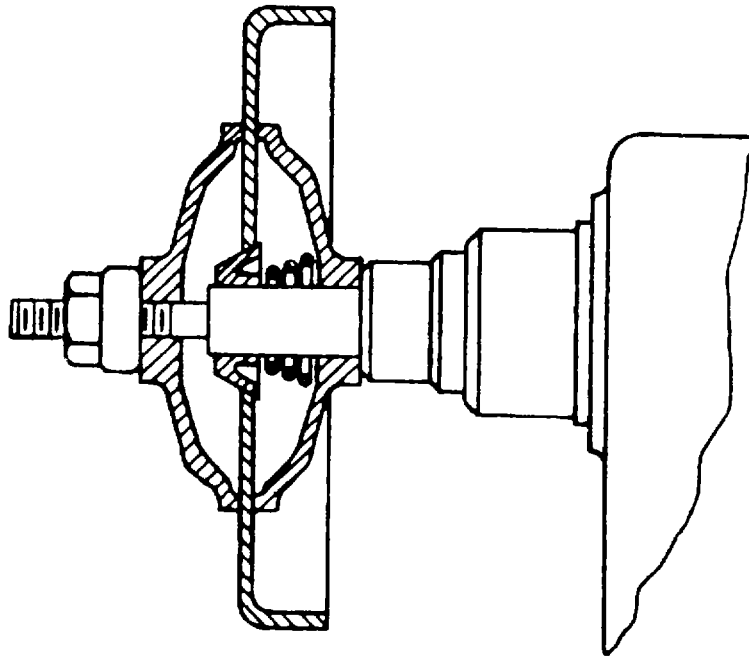

Fig. 1-2 - LOOSE DRUM SET-UP
- a. -Loose Drum Set-Up. Select proper Tapered Cone to fit in center of drum. Place one Face Plate on Arbor followed by the Spring and Tapered Cone. Place drum on Arbor over Tapered Cone and push drum up to pads of Face Plate. Place other Face Plate on Arbor and push up to drum. Place additional Spacers on Arbor so that the two Face Plates can be tightened together when the Arbor Nut is put on the end of Arbor and tightened. Make sure that the face plate pads are riding on a smooth clean surface of the drum. (See Figure 1-2)